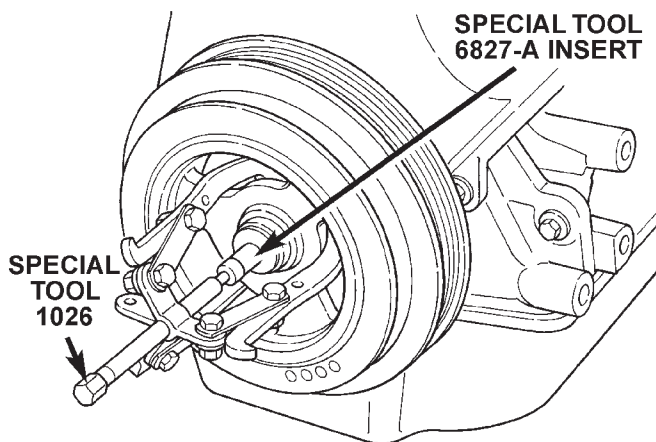

Fig. 99 Crankshaft Damper—Removal
(3) Remove crankshaft damper bolt. Remove damper using the large side of Special Tool 1026 and insert 6827-A (Fig. 99).